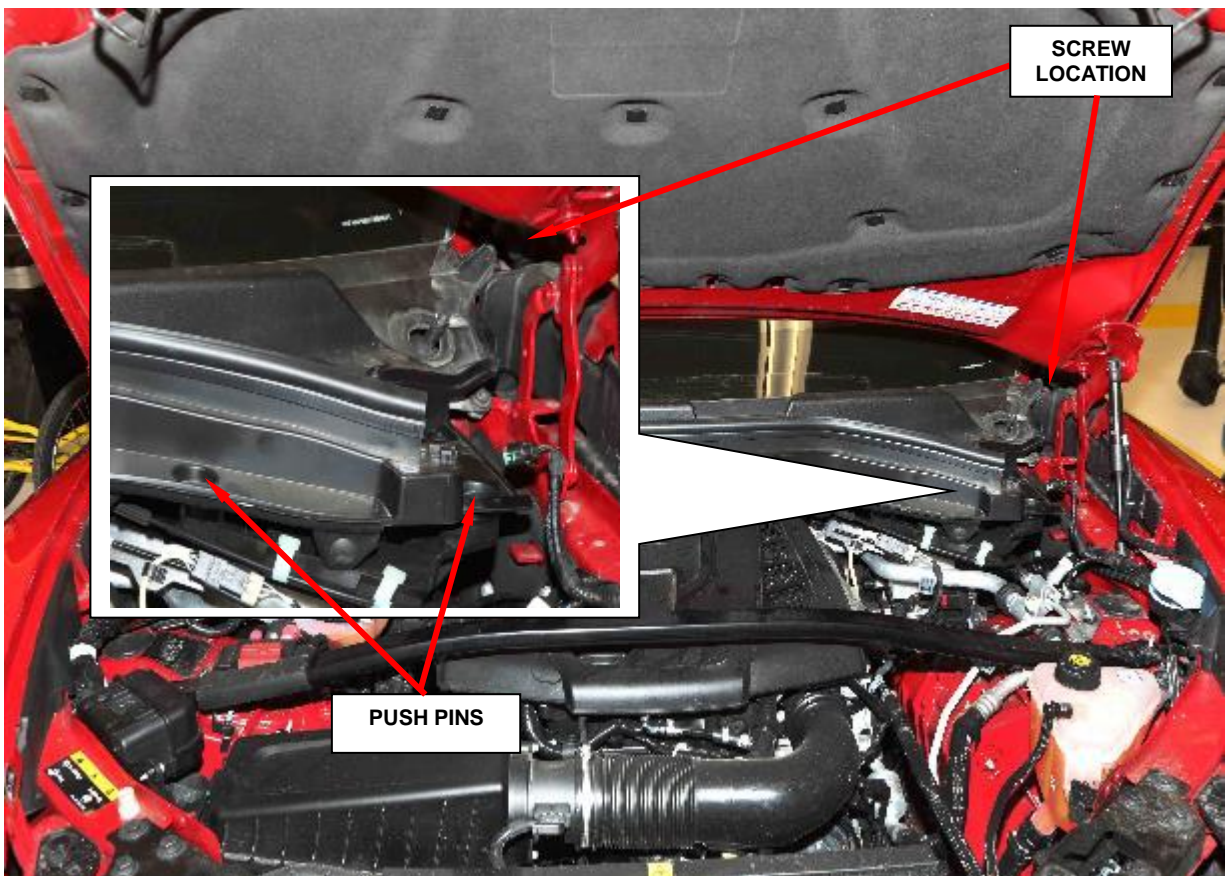

Figure 9 – Windshield Cowl Trim
- i. Working on the left side of the cowl trim, remove the screw (Figure 9).
- j. Use a trim stick to remove the push pins (Figure 9).